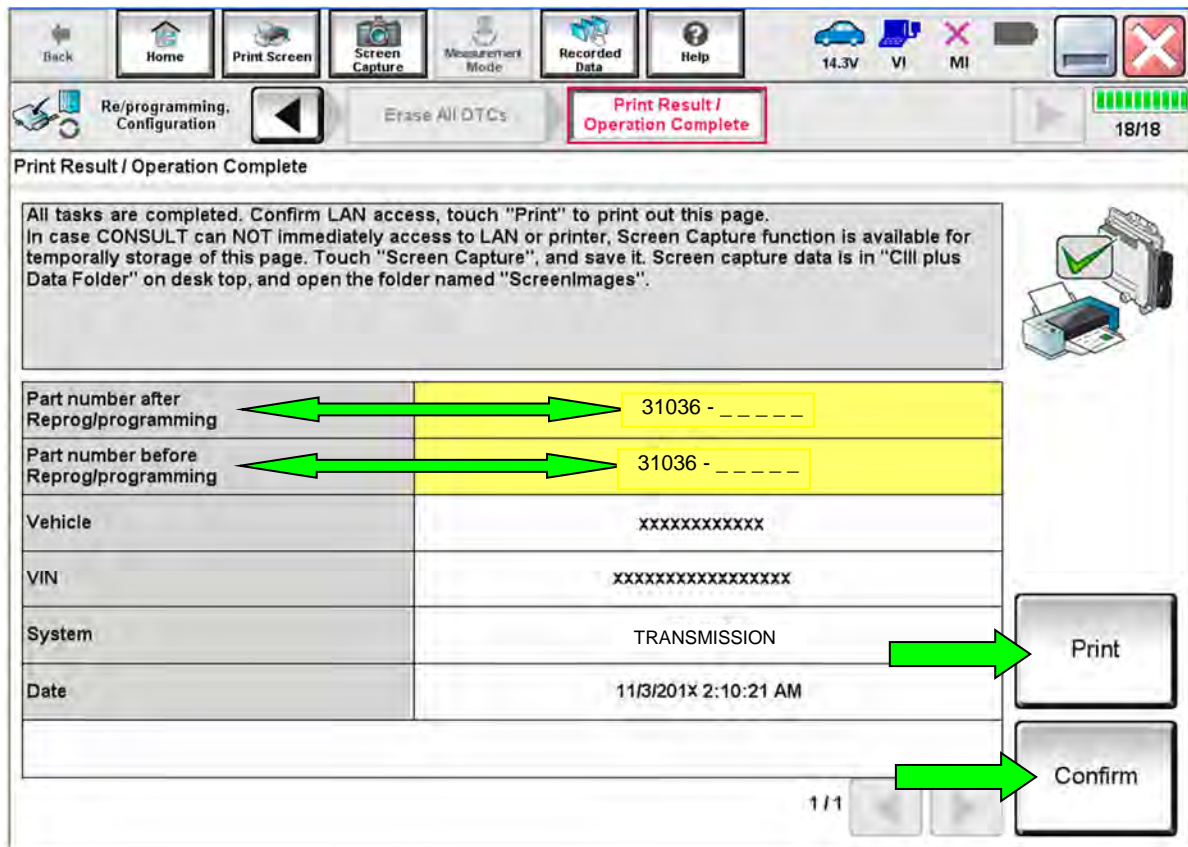

Figure 197
- 178. When the entire reprogramming process is complete, the screen in Figure 197 will display.
- 180. Print a copy of this screen (Figure 197) and attach it to the repair order for warranty documentation.